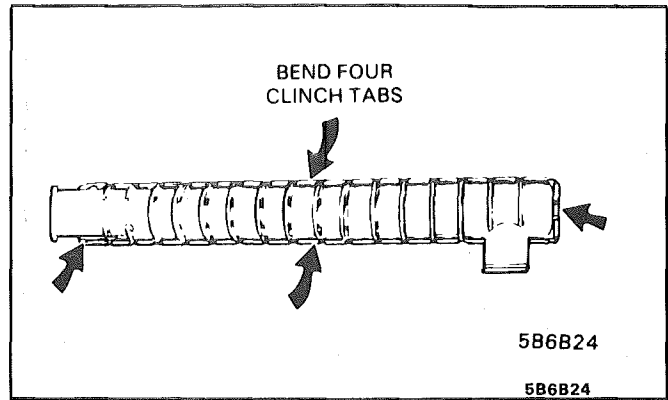

Fig. 24 Seating Tank to Core
9. Position the tank and gasket to the header, clamp it in place and secure it by bending four clinch tabs as shown in Fig. 24.